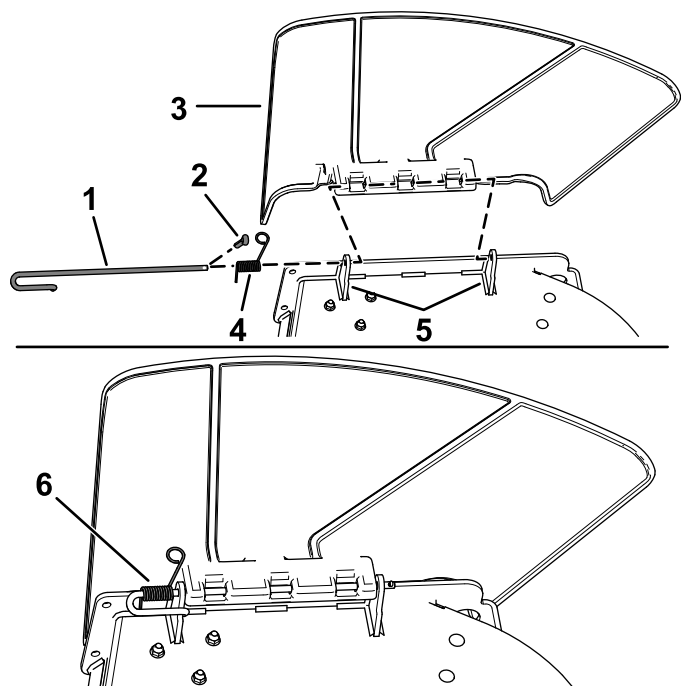

Figure 6
1. Disengage the spring from the notch in the deflector bracket and remove the cotter pin (international models only), slide the rod out of the welded deck brackets, spring, and discharge deflector (Figure 6).
2. Remove the deflector (Figure 6).